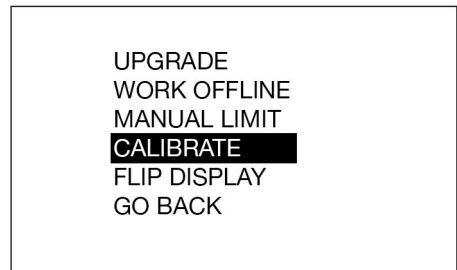
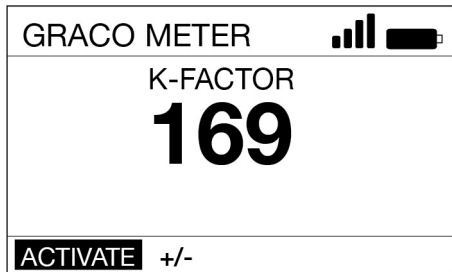

FIG. 20
FIG. 21
4. Select the **CALIBRATE** option (FIG. 20) to display the calibration K-Factor screen shown in FIG. 21.
5. Select **ACTIVATE** and press the **ENTER** button to begin metered dispense valve calibration (FIG. 21).
6. Dispense exactly one (1) quart or one (1) liter of fluid into a clean, calibrated, volumetric flask.